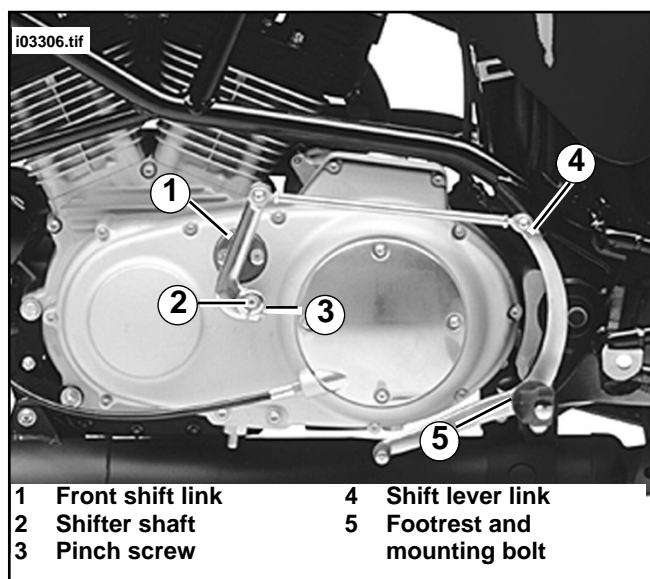
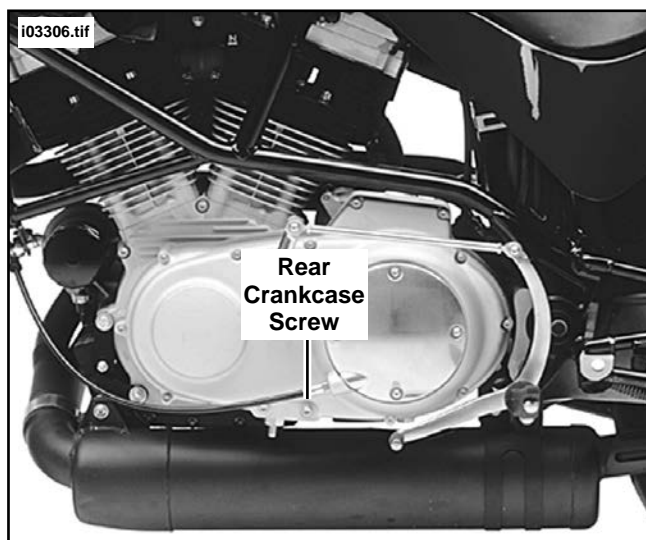

Figure 1. Remove Shifting Linkage
Figure 2. Remove Rear Crankcase Screw
1. See Figure 1. Remove the pinch screw (3) securing front shift link (1) to the shifter shaft (2).
3. Slide front shift link (1) off of shifter shaft (2) and remove entire linkage as an assembly. Discard linkage assembly.
6. See Figure 2. Remove rear screw from lower crankcase housing. Discard screw but save washer.